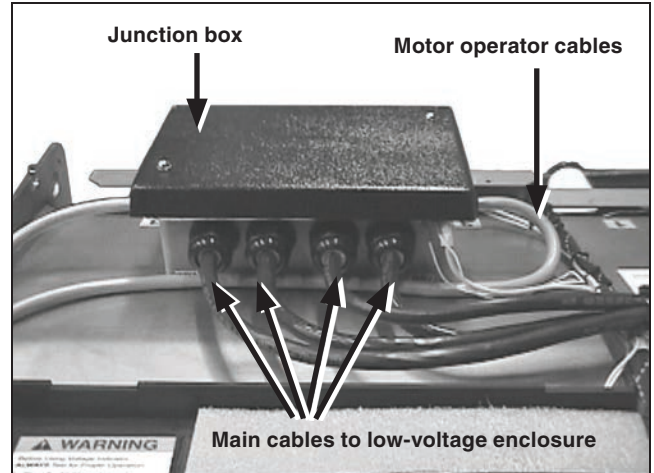

Figure 19. Junction box wiring.
- STEP 1.** Uncoil the junction box main cables that will be routed to the low-voltage compartment. See Figure 19. These cables have low-voltage connectors on their ends.